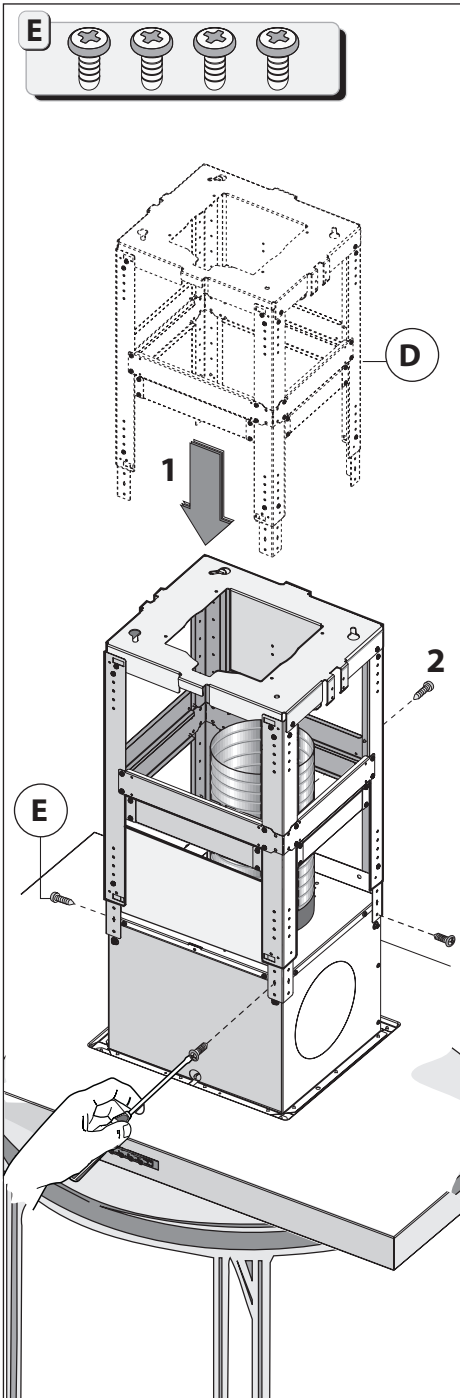

Fig.3
- Remove the structure **D** from the packaging and fix it to the motor container with the 4 screws **E** fig.3.